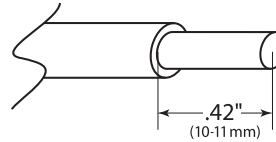

Figure 15A Strip wire
1. Strip wire insulation .42" as shown. (Fig. 15A).